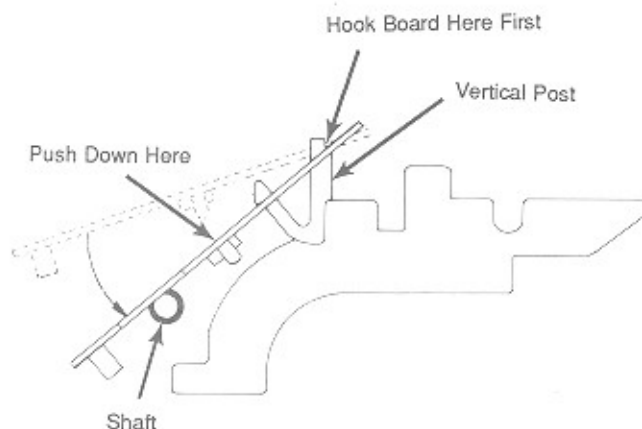

Figure 4-10A. Mounting The Cell Assembly
1. To replace the assembly on the lower track, set the transport upside down. Hook the board over the vertical post; then, pull the catch back and push down on the board to snap it under the catch (see *figure 4-10A*).